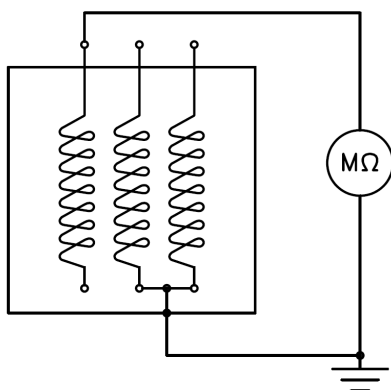

Figure 1
- Concerning the windings of the **main stator**, the insulation resistance measurement must be conducted taking care to detach the connections leading to the regulation devices (voltage regulator or other devices) or to any other group devices. The measurement is taken between one phase and ground with the remaining two phases also connected to ground (the operation must be conducted on all three phases). (see **Figure 1**)